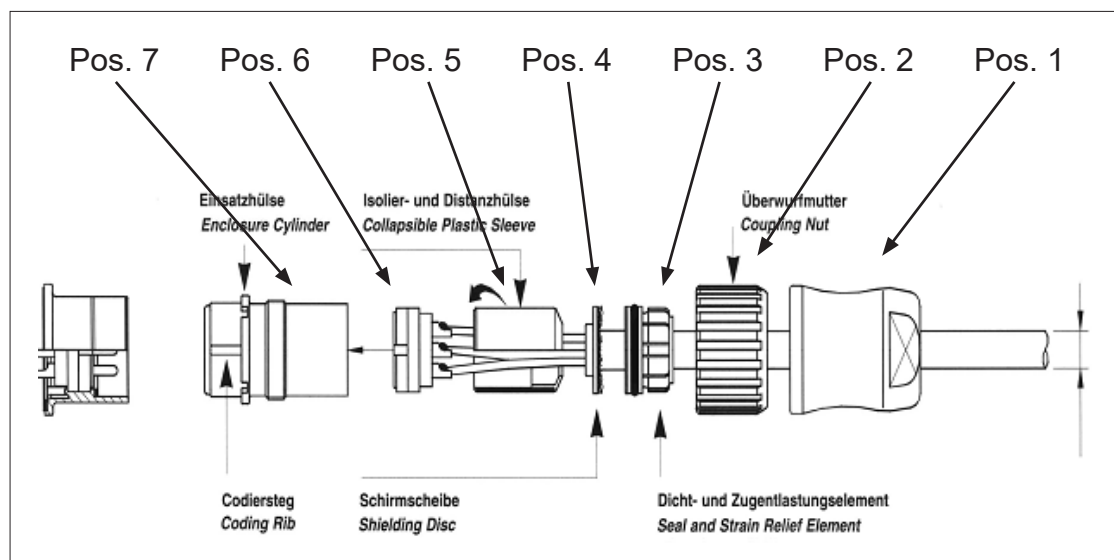

Fig. 8.3. Mounting the plug part. no. 9 300 12 10000 and 9 300 12 20000
- In this example: Select a twisted pair black/brown and the red wire of the other twisted pair black/red, and cut away the insulation approx. 5 mm from the end of these 3 wires and solder them to the pins of the plug (as shown in Fig. 8.3, Pos. 6)